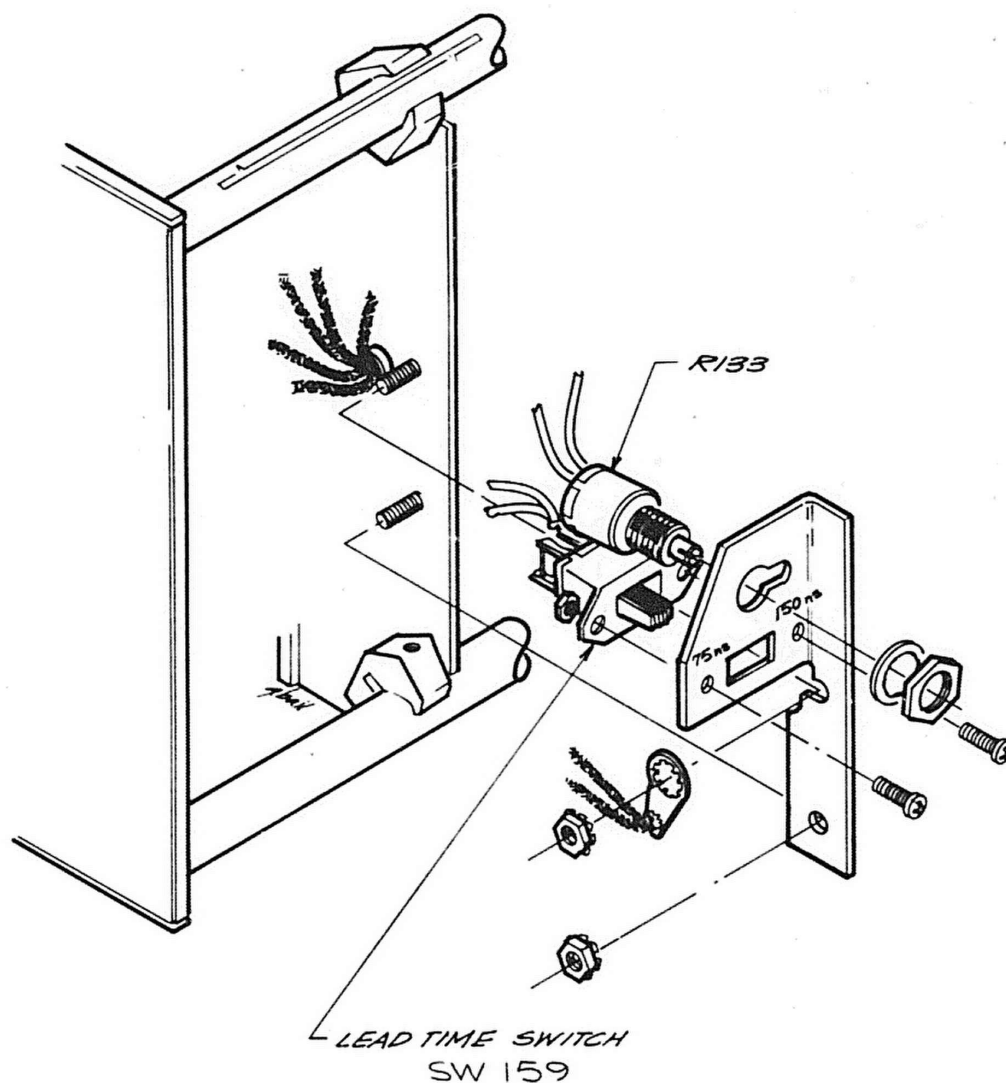

Fig. 1. Mounting bracket installation.
- () 22. Install the provided switch assembly onto the two right-side mounting studs of the delay line assembly, as shown in Fig. 1.
- () 23. Install the provided lug terminal onto the top-right delay line mounting stud. See Fig. 1.